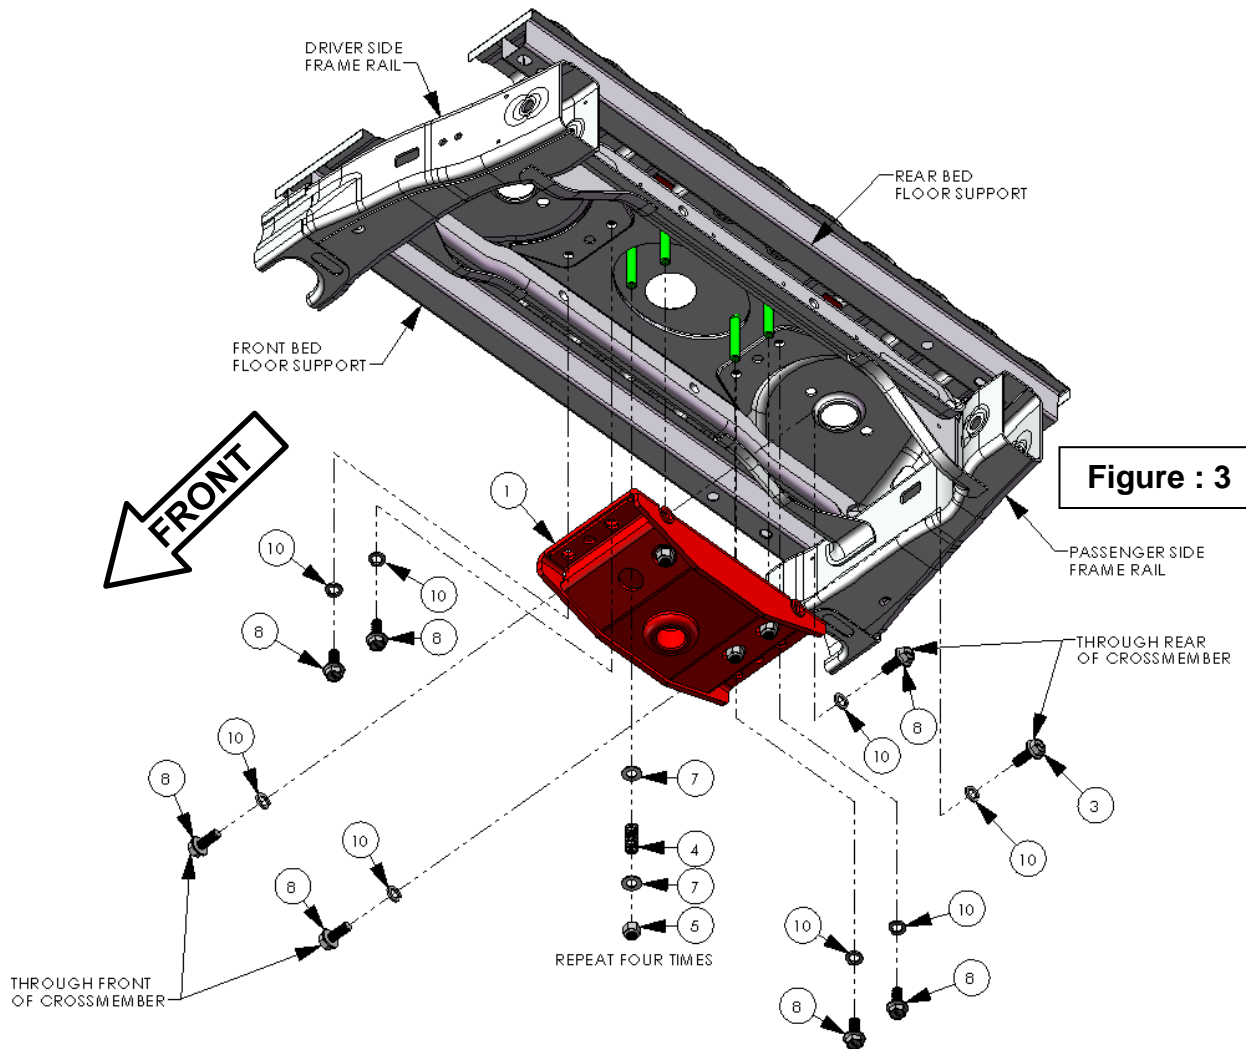

Figure : 3
7. Using an extra set of hands, lift center section (#1) into place and tighten eight flange head bolts (#8) with eight M16 lock washers (#10) until center section (#1) is completely seated against the bottom of the cross member with center section (#1) cup through the oval hole in the cross member as well as the floor of the truck bed. (See Figure 3). **Note: For best towing performance, ensure center section (#1) is square to the cross member and frame rails of the truck before tightening flange head bolts (#8) down.**